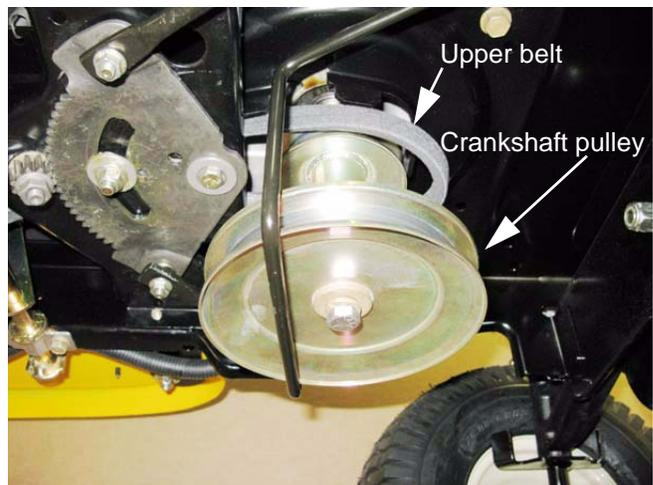

Figure 6.65
- B. Drop crankshaft pulley down far enough to let the belt clear the belt keepers that are built into the bottom of the frame. See Figure 6.65.